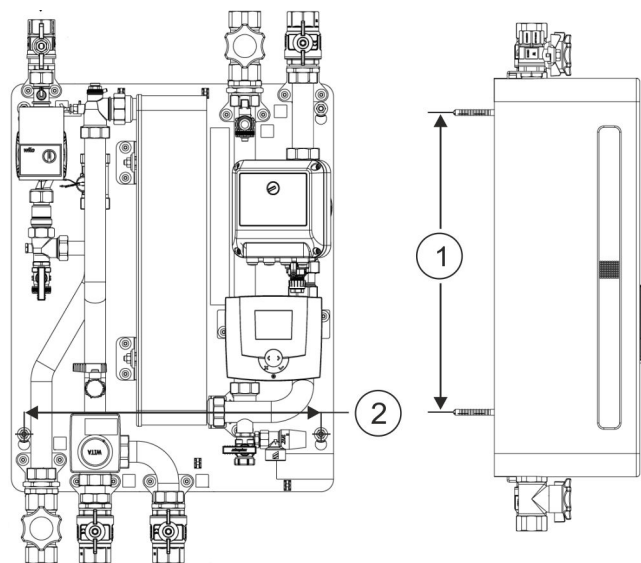

Fig. 21: Gauge for holes
4. ➔ Mark the drill holes (Fig. 21/1 + 2) on the wall.